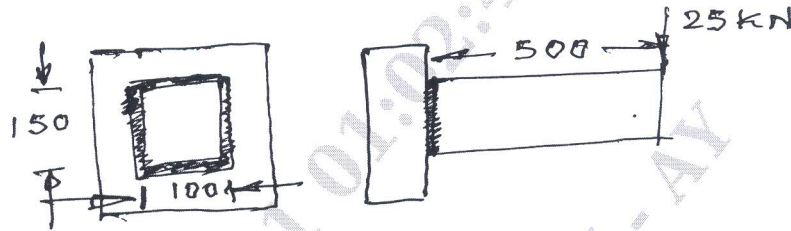

Fig.Q.8(a)
- 8 a. A shaft of rectangular cross section is welded to a support by means of fillet welds, as shown in Fig.Q.8(a). Determine the size of the welds, if the permissible shear stress in the weld is limited to  $75\text{N/mm}^2$ . (10 Marks)